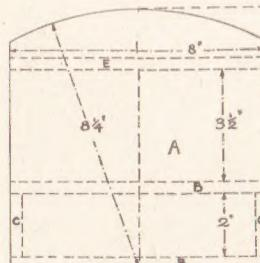

Fig. 1—Details of main back
In Fig. 1 the ground arrangement of the parts are seen, and some measurements, helpful in assembling. A full cutting list is included, so there may be no difficulty in setting out the parts.
On the outline of the back, shown in Fig. 1, the positions of the base and the top of the box shown as (B), and the pipe rack or shelf (E) is given by dotted lines. These dotted lines should be drawn across the back as a guide and two holes should be bored between each pair of lines to take the fixing screws. After the holes are made, they should be countersunk on the back of piece (A) so the heads of the screws lie flush and neat.
It will be noted that the top of piece (A) is cut to a curve, the point for the compass which marks this curve being made as shown at the base of the piece. The parts (B) and (C) are cut in pairs, so having marked out and cut one piece, it can be used as a template for drawing round to outline the second piece. This assures accuracy of fit when the time comes for assembling the pieces. Note when gluing up that the parts all lie flush at the ends of the drawer compartment, this is seen in Fig. 1, and in the sketch of the finished article. This again simplifies the final cleaning on a flat surface of glasspaper.